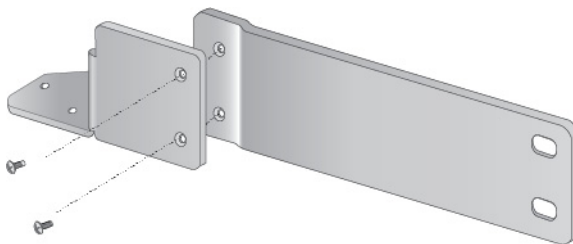

Figure 26. Attaching the Extension to the Bracket
2. Attach the extension to the bracket with the M4x6mm screws using a Phillips-head screw driver as shown in See Figure 26.